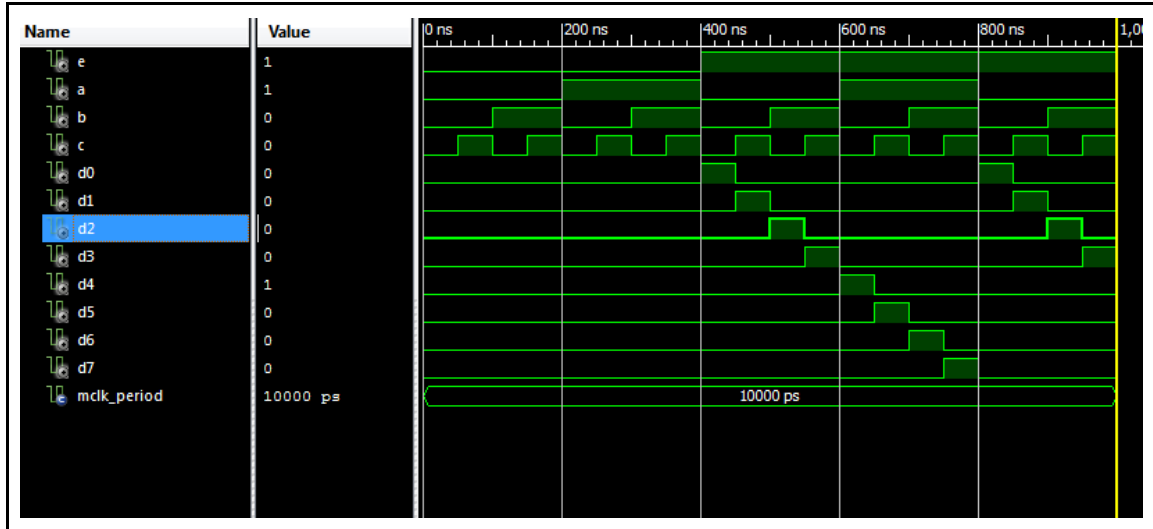

Figure 6. Behavioral Simulation of Sprinkler Controller Circuit
- Make groups of signals to establish an expandable hierarchy; instead of deleting the extra signals that are not inputs or outputs (e.g. period_VAR and duty_cycle_VAR), we can group these into a signal group and contract the group so that it is not visible (as shown in Figure 6 below)